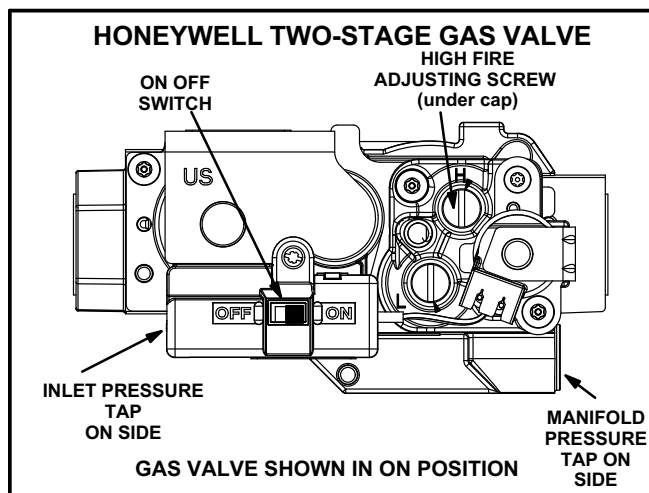

FIGURE 3
- 1 - Connect test gauge to manifold pressure tap (figure 3) on gas valve.
- 4 - If necessary, make adjustments. Figure 3 shows location of high fire adjustment screw.